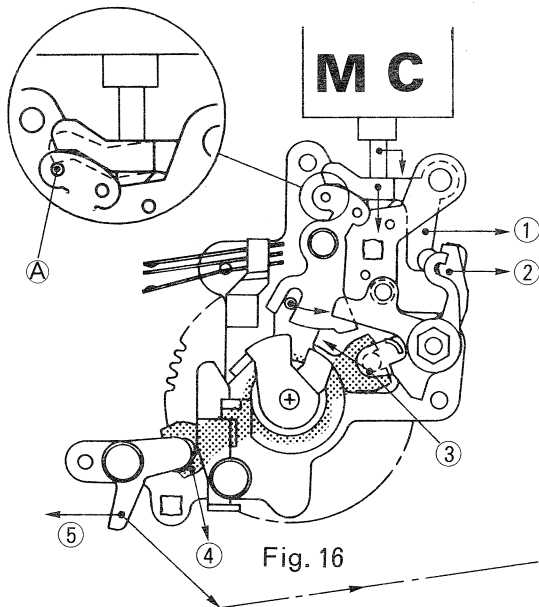
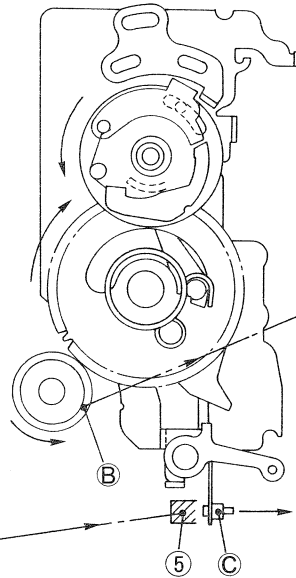
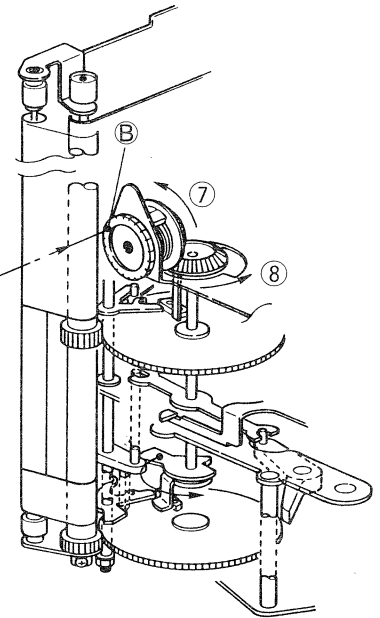
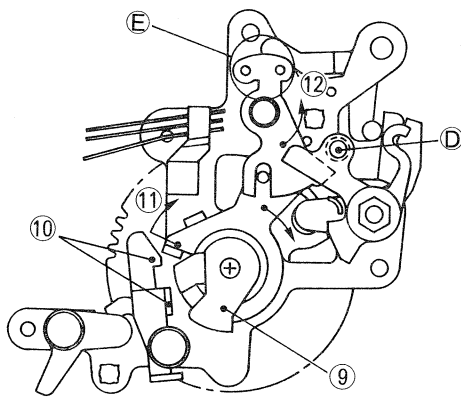

Fig. 16
Fig. 17
Fig. 18
Fig. 19
When MC, receiving a release signal in charged conditions shown in Fig. 16, is actuated, each transmitting lever moves in the arrow direction of ① ② ③ ④, and S release ⑤ pushes M release ⑥ (Fig. 17), thus unlocking mechanical charge. (Since MC pin controls lever ①, using stop pin A (Fig. 16), MC force is actuated in a half-reduced position, thus moving only levers ② ③ ④ ⑤.)
M charge cam thus unlocked actuates the mirror-up lever. On the other hand, gear ⑦ coupled with gear S2 transmits the rotation in the arrow direction of ⑦ ⑧ (Fig. 17 - Fig. 18), and charge lever ⑨ (Fig. 19) coaxial to ⑧ disconnects hook ⑩ after the mirror goes to the specified uppermost position. At the same time, the interlocking units ⑪ ⑫ move in the arrow direction, and when ⑫ disengages 1st curtain stop lever claw D, 1st curtain runs, while the 1st curtain shutter charge gear is rotating. (Stop pin E in Fig. 19 is unlocked, so that lever ① is set free.)